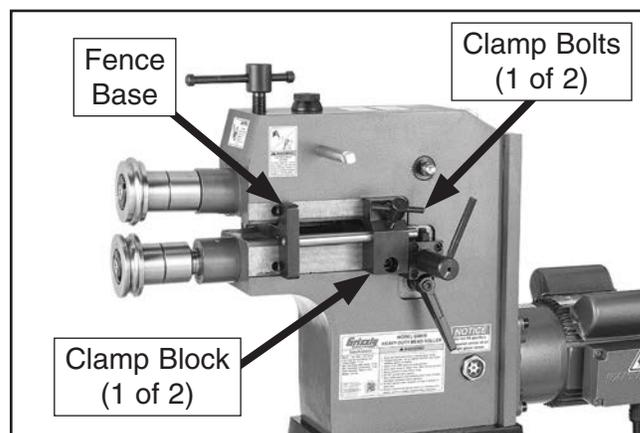

Figure 18. Fence mounted in rear position.
6. Install clamp blocks in rear position (see **Figure 18**).
7. Install clamp bolts (see **Figure 18**).
8. Install fence base without faceplate (see **Figure 18**) and adjust as needed (see **Adjusting Fence on Page 22**).